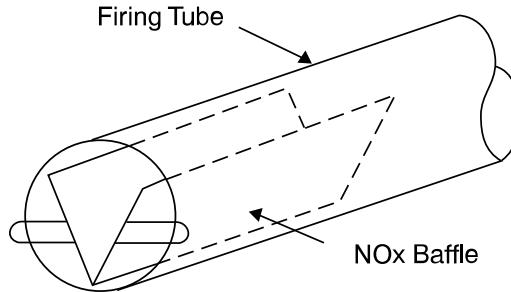

Fig. 1 – Low NOx Baffle Location
Failure to follow this caution may result in damage to unit components. Before converting a unit to propane gas, remove the burner assembly and inspect the heat exchanger tubes. If there are V-shaped NOx baffles installed in the firing tubes, (see Fig. 1). THEY MUST BE REMOVED PRIOR TO CONVERTING THIS UNIT TO PROPANE GAS.
10. Inspect the inlet of the heat exchanger tubes for presence of V-shaped NOx baffles (see Fig. 1). If baffles are present, they must be removed prior to converting unit for propane gas. Using needle-nose pliers, remove NOx baffles, squeeze sides of the baffle, if necessary, to remove from the heat exchanger tubes.